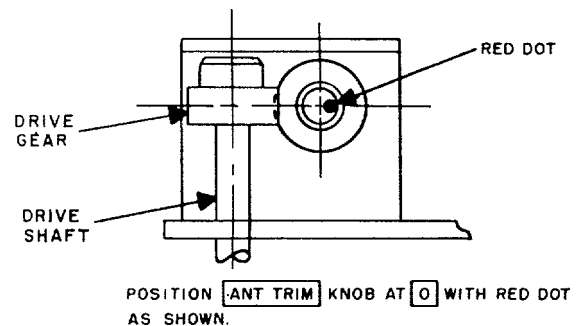

**Figure 73. Variable-frequency oscillator end-point adjustment.**
(fig. 73)
- h. Use a thin screwdriver through the vfo end-point-adjustment access hole (fig. 73) to adjust L701 for zero beat.